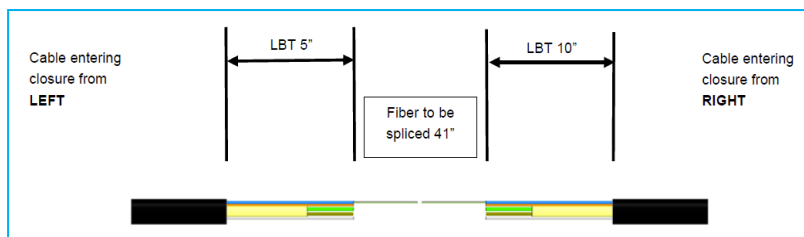

Figure 2
- 5.1.1.11 Remove **41"** of buffer tube between the two marks. See Figure 2.